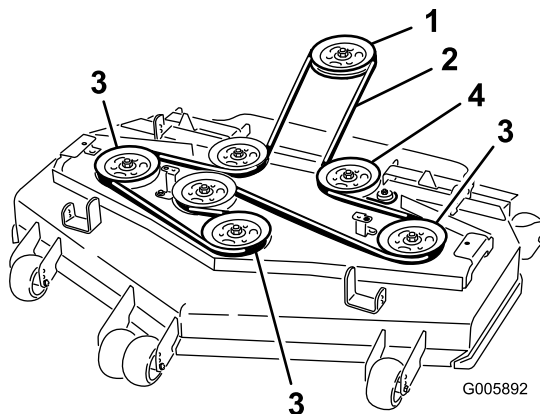

Figure 58
6. Install the new belt on the pulleys (Figure 58).